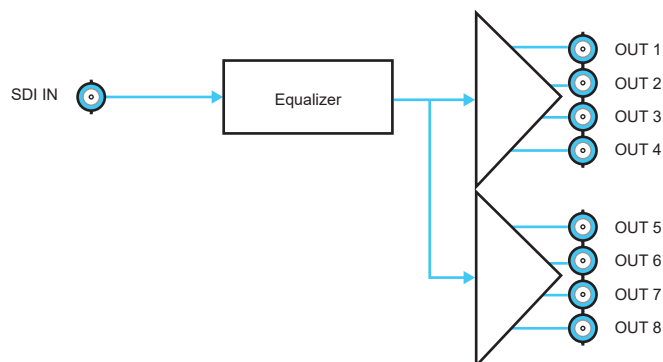

Figure 1 Simplified Diagram — 1x8 Configuration (8320AR-300)
**Figure 1** describes the workflow of the SEA-8803 with the 8320AR-300 Full Rear module. This configuration has the SEA-8803 operating as a single equalizing 1x8 with BNC connections.